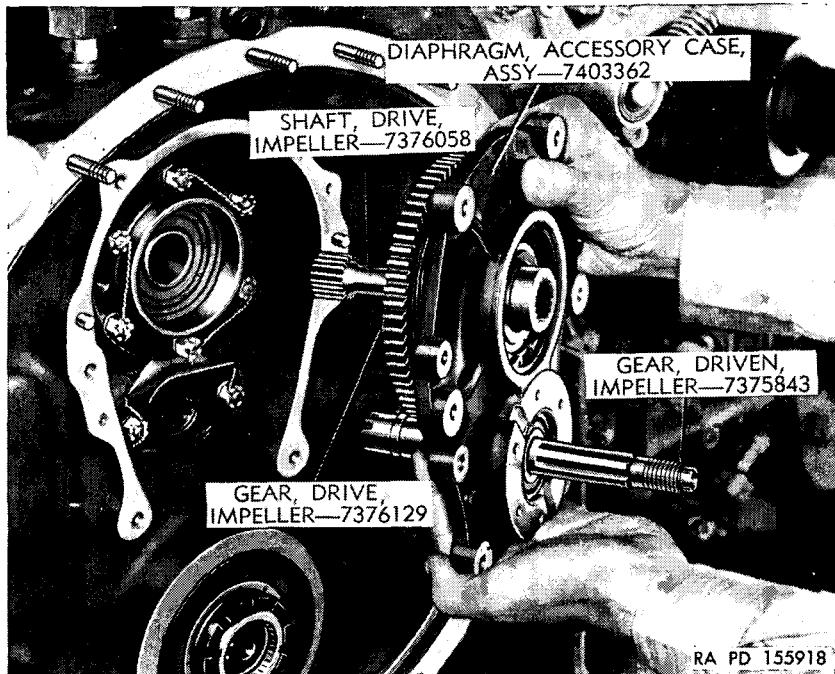

Figure 48. *Installing accessory case diaphragm assembly.*
- (14) Install the accessory case diaphragm assembly (fig. 48), meshing the impeller driven gear (HH, fig. 38) with the impeller drive gear (P), and tap the diaphragm assembly on the dowels. Secure with six plain washers (F), drilled-hex-head bolts (E), and safety wire.